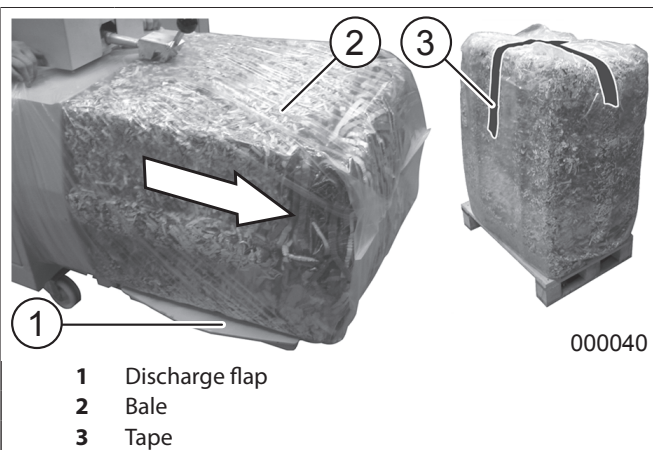

fig. 18 Ejecting the bale
3. Press and hold the "Advance Ram" key (fig. 12/1). The completed, tied off bale is ejected into the plastic sack and is pushed onto the discharge flap (fig. 18).
5. Fold the end of the sack together and seal with tape (fig. 18/3). The bale can now be removed.
2. Press the bale into the plastic sack and onto the discharge flap (fig. 18) by activating the "Advance Ram" key (fig. 12/1).
3. Fold the end of the sack together and seal with tape (fig. 18/3). The bale can now be removed.